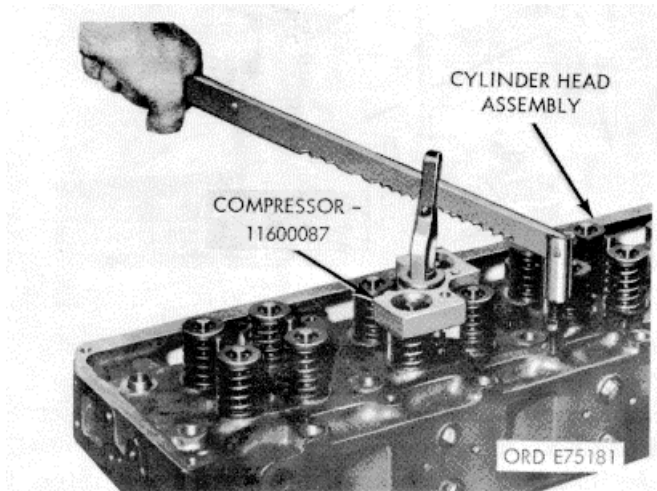

Figure 3-26. Valve assemblies-removal/installation.
- b. Using valve spring compressor (44, fig. B-28) remove valve assemblies as shown in figure 3-26.